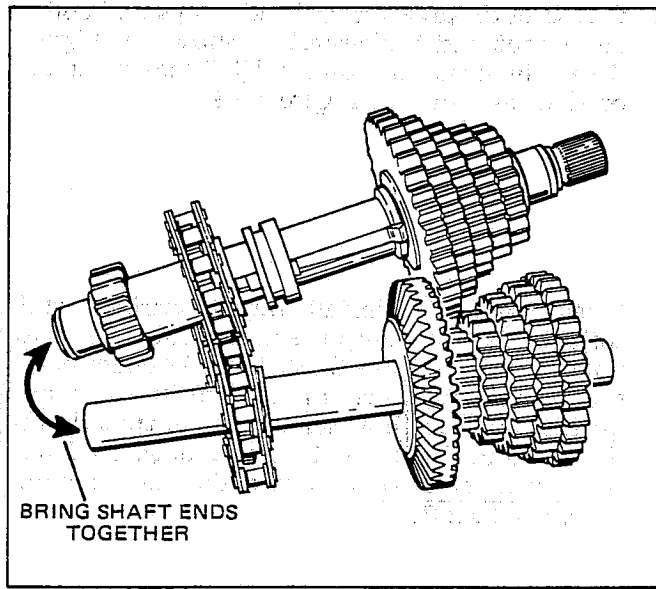

Figure 3-32
5. With the shifter and brakeshaft - and countershaft ends angled together as shown in Figure 3-32, install the chain on the sprockets. Figure 3-32.